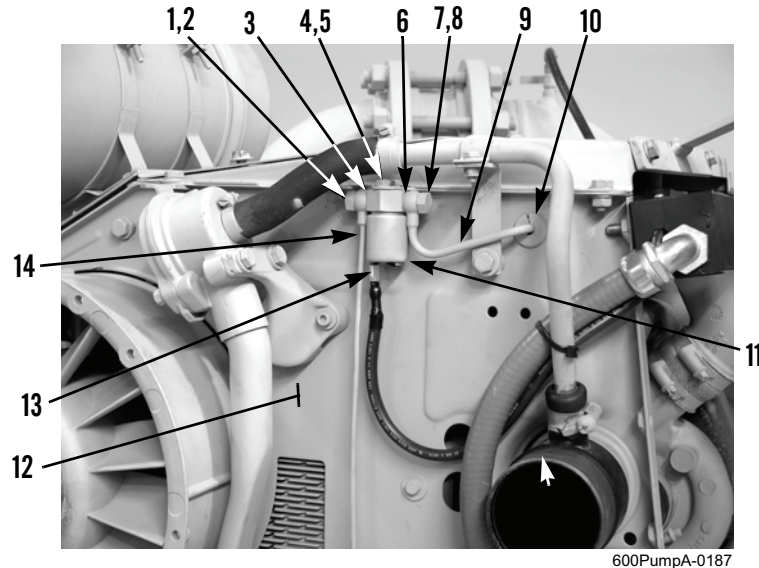

Figure 4. Solenoid Valve.
3. Install solenoid valve (Figure 4, Item 11) on front air duct wall (Figure 4, Item 12) with two new lockwashers (Figure 4, Item 5) and bolts (Figure 4, Item 4).
4. Install new sealing washer (Figure 4, Item 6), fuel line (Figure 4, Item 9), new sealing washer (Figure 4, Item 8), and fluid passage bolt (Figure 4, Item 7) to solenoid valve (Figure 4, Item 11).
5. Install new sealing washer (Figure 4, Item 3), fuel line (Figure 4, Item 14), new sealing washer (Figure 4, Item 2), and fluid passage bolt (Figure 4, Item 1) on solenoid valve (Figure 4, Item 11).
6. Connect wire (Figure 4, Item 13) to solenoid valve (Figure 4, Item 11).